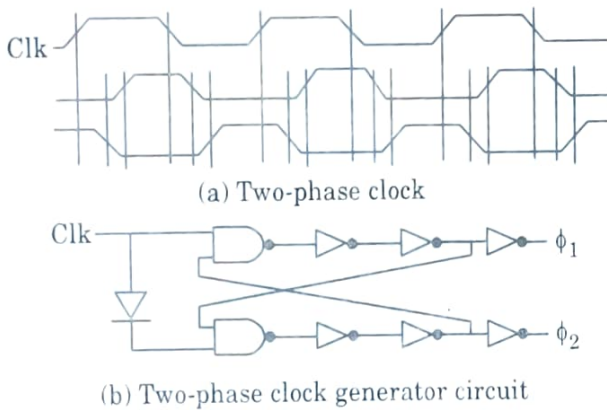

Fig. 3.14.1.
1. A two-phase non-overlapping clock is shown in Fig. 3.14.1(a). As the two-phases (ϕ_1 and ϕ_2) are never high simultaneously, the clock has three states and four edges and satisfies the property $\phi_1 \phi'_2 = 0$.
2. There is a dead time, Δ , between transitions of the clock signals as shown in Fig. 3.14.1(a).
3. The schematic diagram of a circuit that generates two-phase clock is shown in Fig. 3.14.1(b).